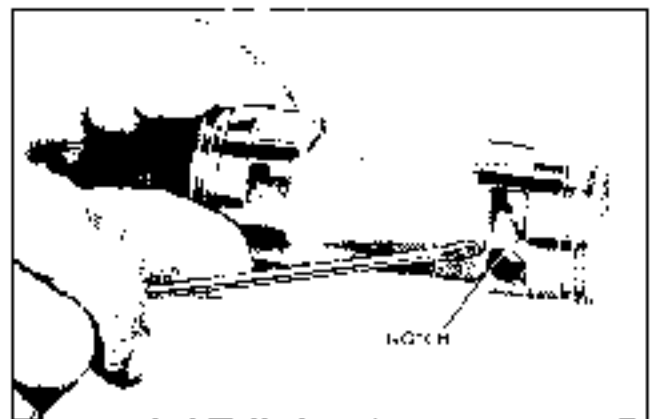

Fig. 1A-25 Identification of Front End of Piston
8. Remove rear combination of thrust races and thrust bearing. Discard all three pieces (Fig. 1A-26).